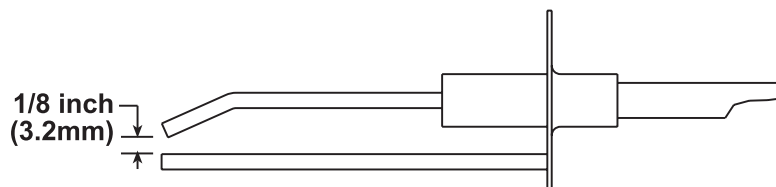

Figure 22. Ignitor Spark Gap
- The spark gap (see Figure 22) must be maintained to 1/8 inch.